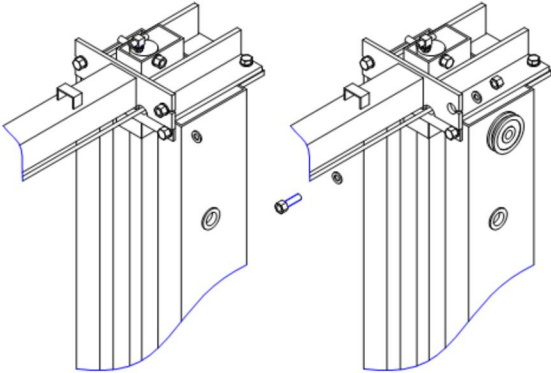

Fig. 7a
- A. Install cylinder mounts (uprights) using 2ea 1/2"x 1-3/4"+bolts, washers & nuts on each end, (Figs. 7a, 7b, 7c). **NOTE: ENSURE OVERHEAD LIMIT SWITCH ASSEMBLY IS ON THE MAIN SIDE COLUMN SIDE.**